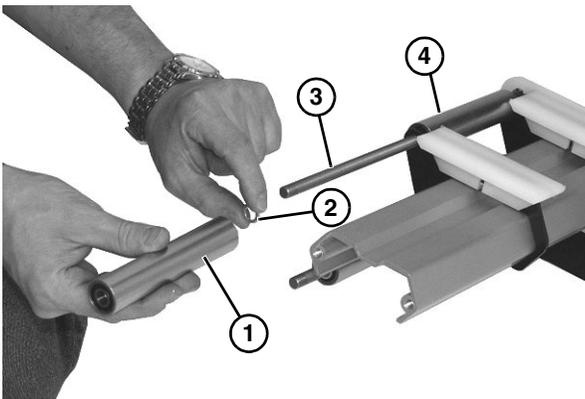

Figure 58
- Remove roller assembly (**Figure 58, item 1**) and washer (**Figure 58, item 2**) from axle shaft (**Figure 58, item 3**).
- Remove remaining roller assembly components (**Figure 58, item 4**) on opposite side.